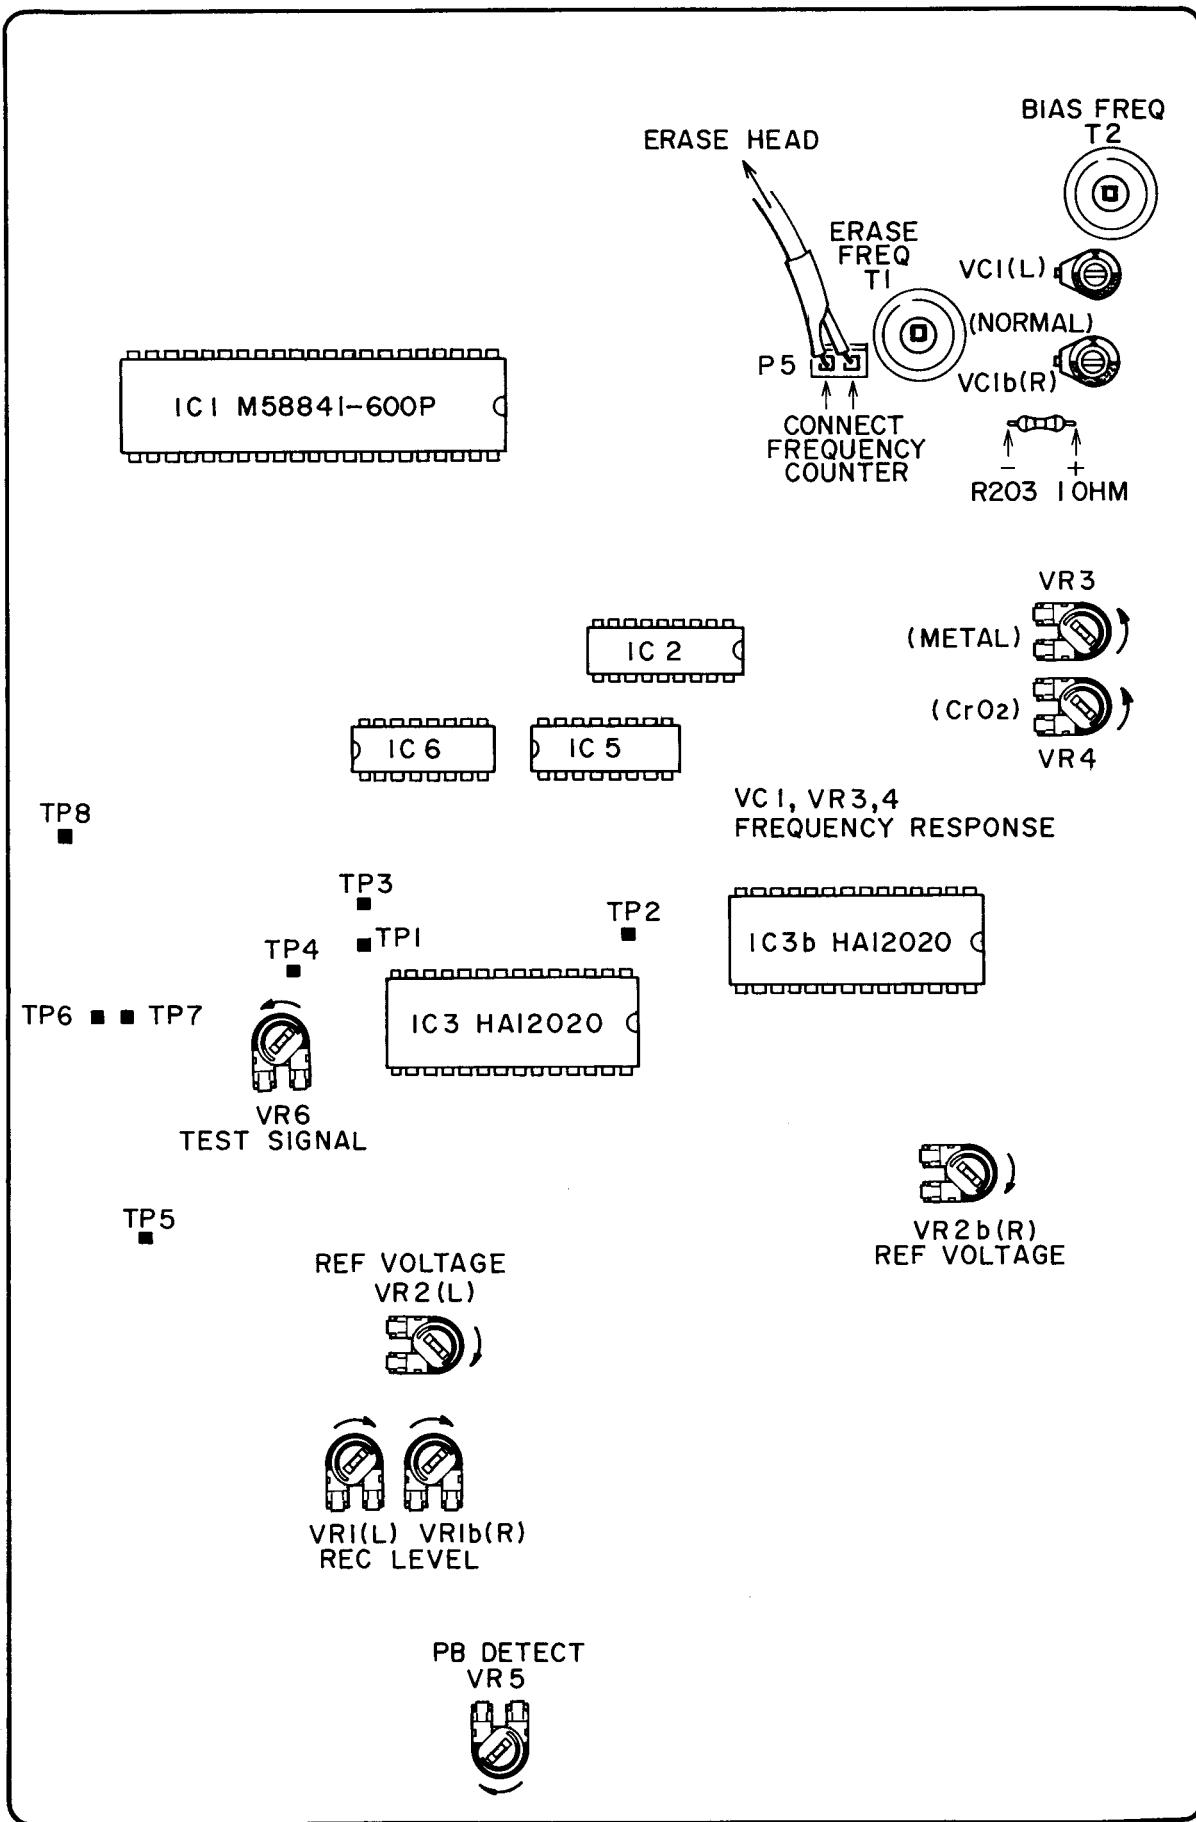

Fig. 12 Tuning P.C Board
5. IC3 (HA12020) REFERENCE VOLTAGE ADJUSTMENT (Fig. 12)
- b. Adjust VR2 (L) so that the voltage to GND of TP1 will be 1.10 ± 0.03 V DC.
- c. Adjust VR2b (R) so that the voltage to GND of TP2 will be 4.00 ± 0.05 V DC (before SERIAL NUMBER 70401-00101), 5.10 ± 0.05 V DC (after SERIAL NUMBER 70401-00101).
6. REC BIAS OSC ADJUSTMENT (Fig. 12)
- b. Set VC1 as shown in Fig. 12.
7. FREQUENCY RESPONSE ADJUSTMENT (Fig. 12)
8. RECORDING LEVEL ADJUSTMENT (Fig. 12)
9. TEST SIGNAL ADJUSTMENT (Fig. 12)